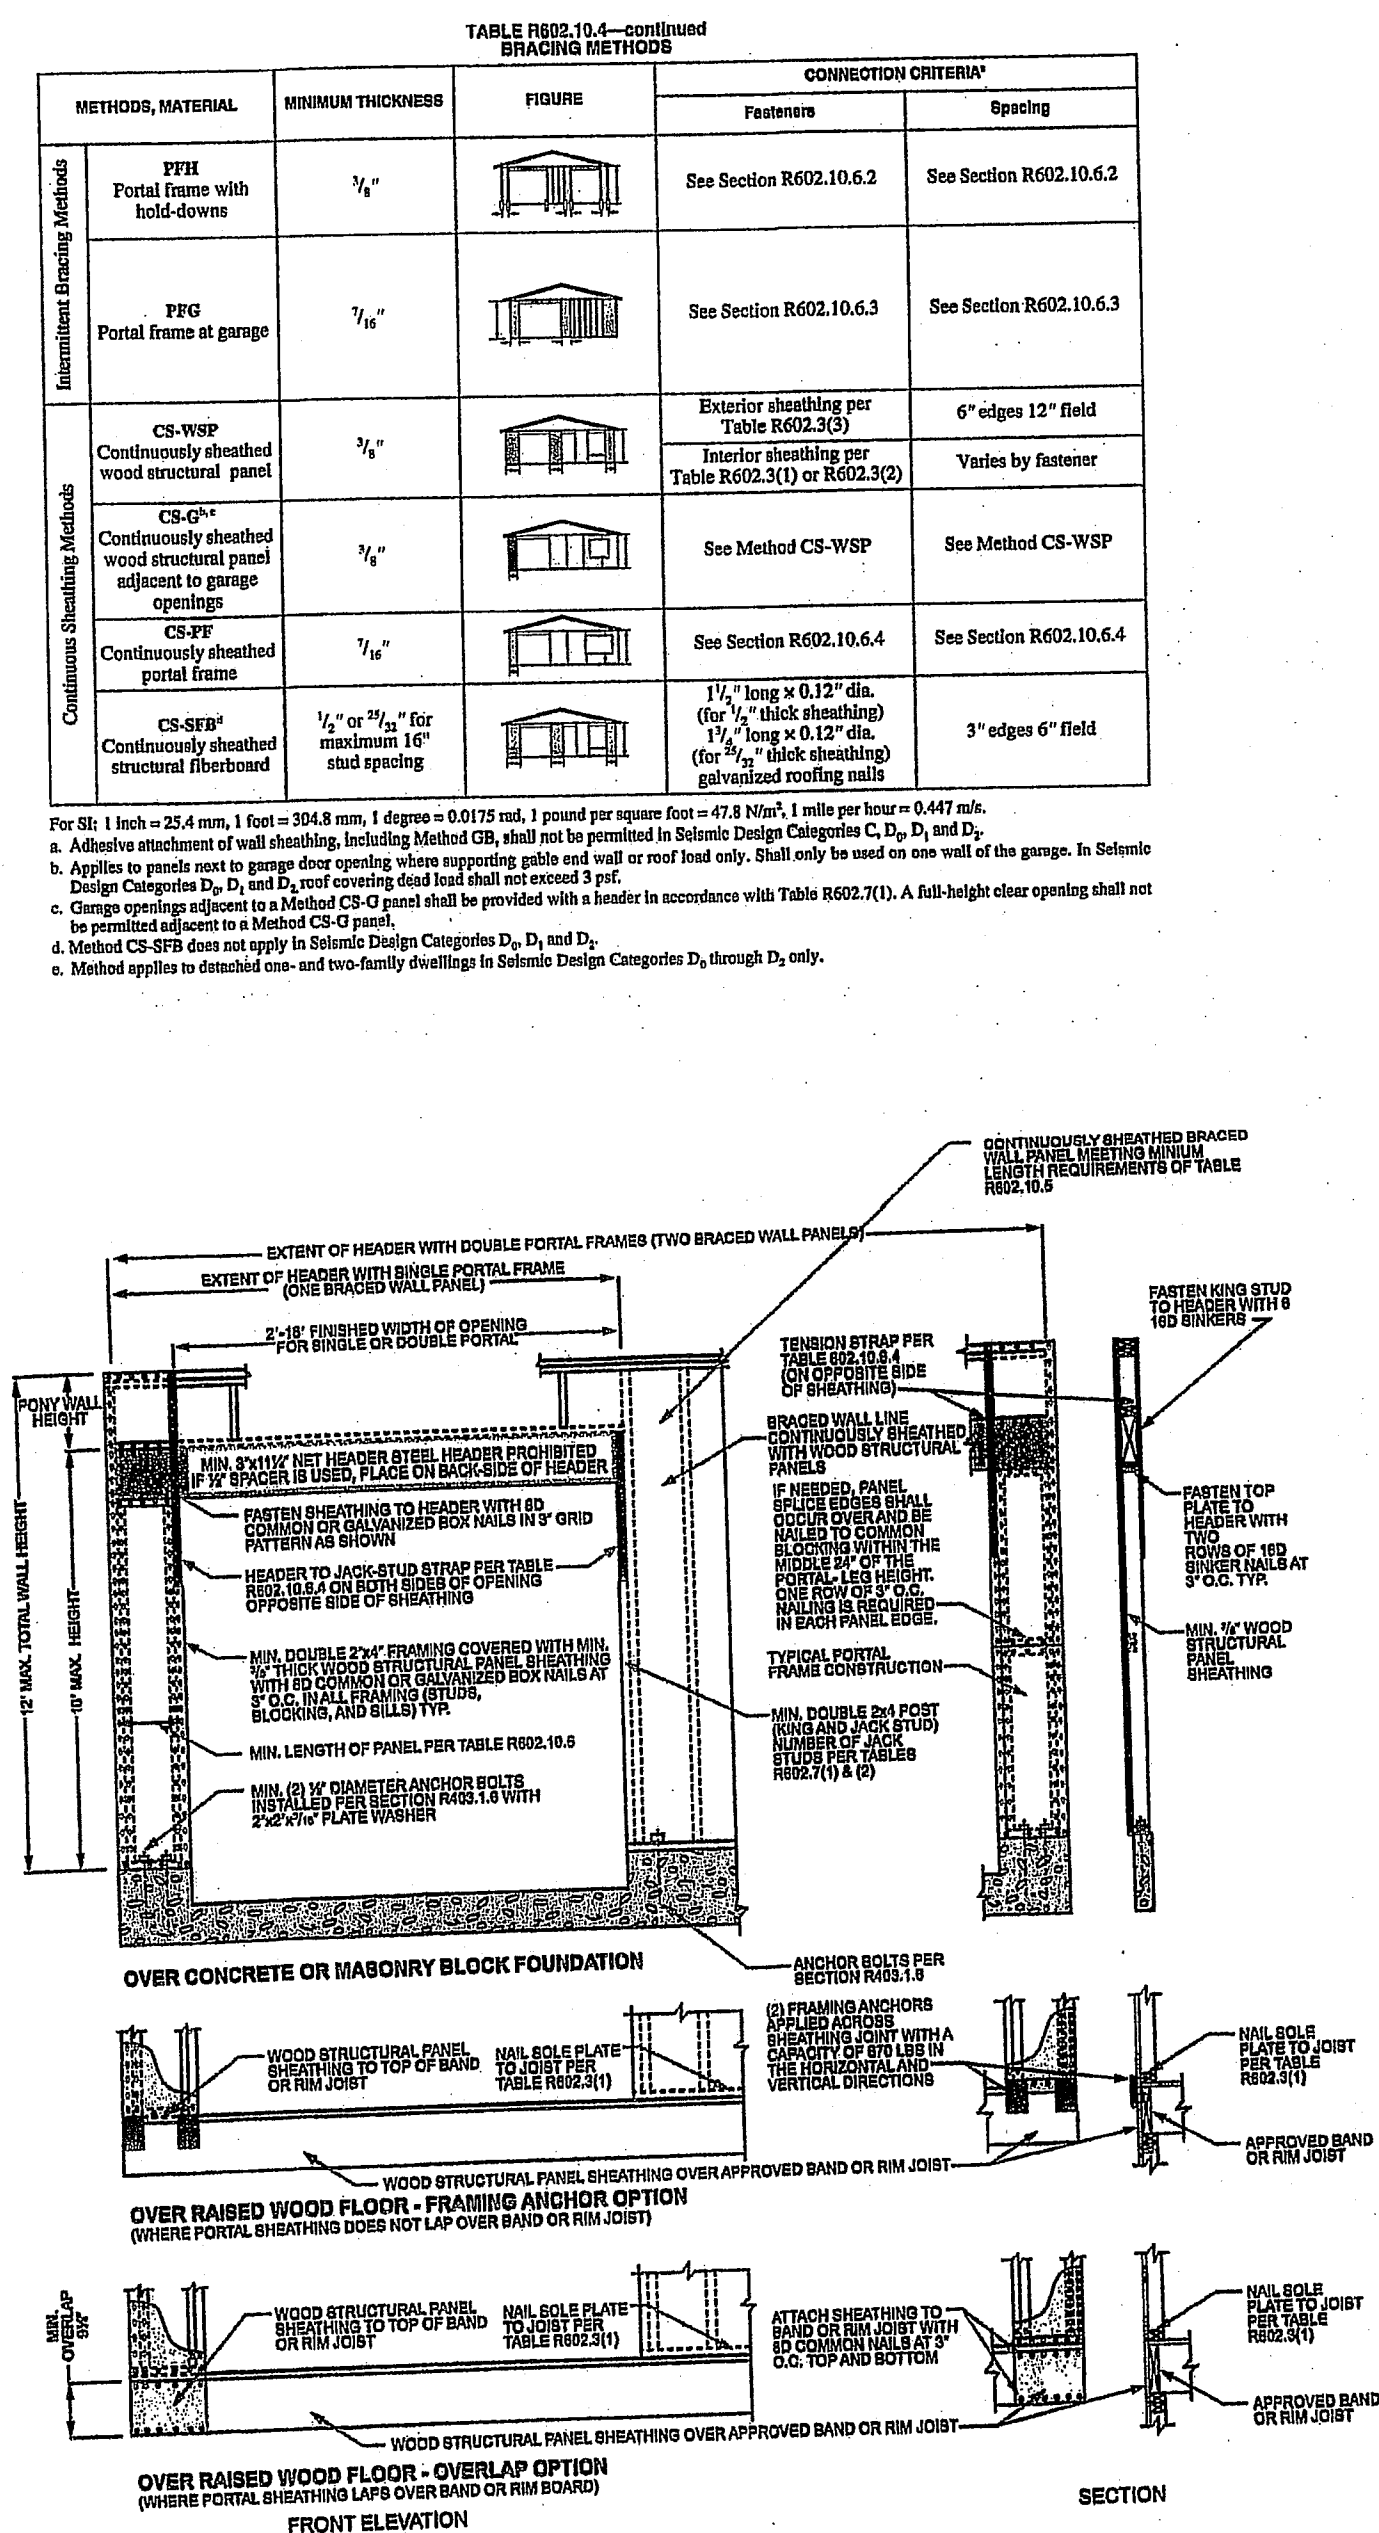

FIGURE R602.10.6.4
c. Maximum header height for PFH is 10 feet in accordance with Figure R602.10.6.2, but wall height shall be permitted to be increased to 12 feet with pony wall.
d. Maximum header height for PFH is 10 feet in accordance with Figure R602.10.6.3, but wall height shall be permitted to be increased to 12 feet with pony wall.
e. Maximum header height for CS-PF is 10 feet in accordance with Figure R602.10.6.4, but wall height shall be permitted to be increased to 12 feet with pony wall.